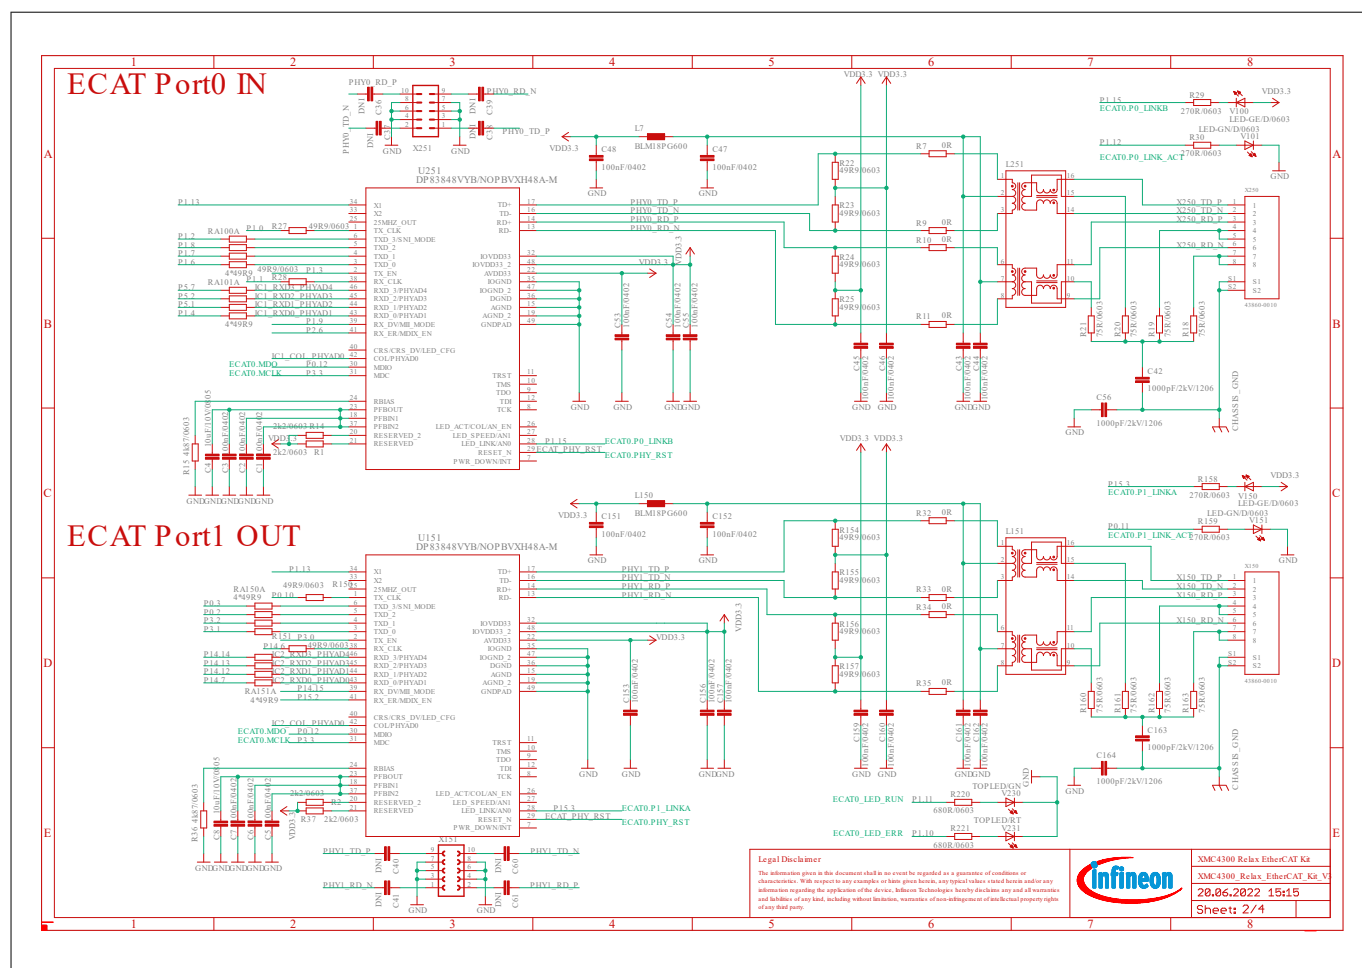

Figure 14 Schematic: EtherCAT® Phys, Magnetics, Phy-2-Phy (see revision Revision 1.1)
- Figure 14 (See Revision 1.1)